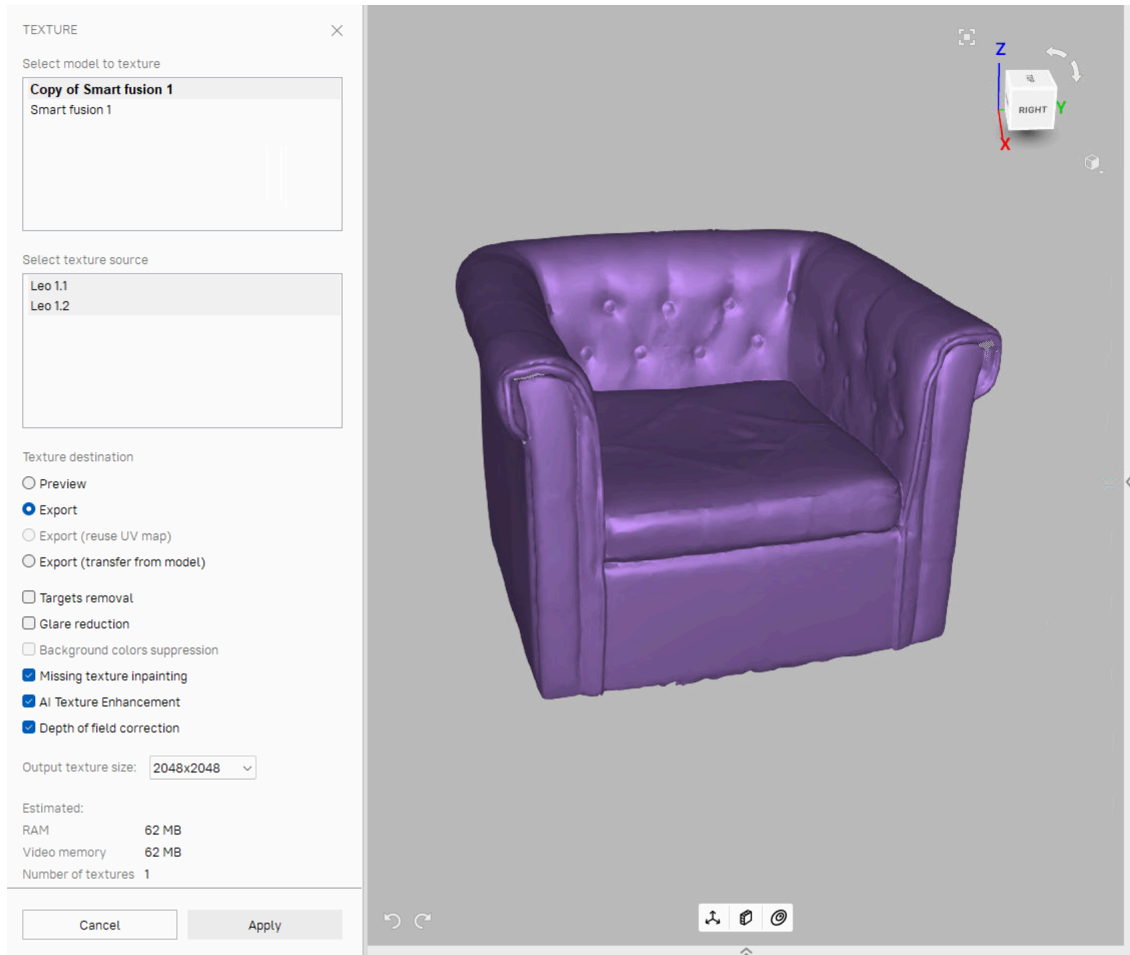

Figure 146: Choosing a texture-application method and adjusting its parameters.
2. Choose a model from the first list (see Figure 146); Artec Studio will apply the textures to this model.